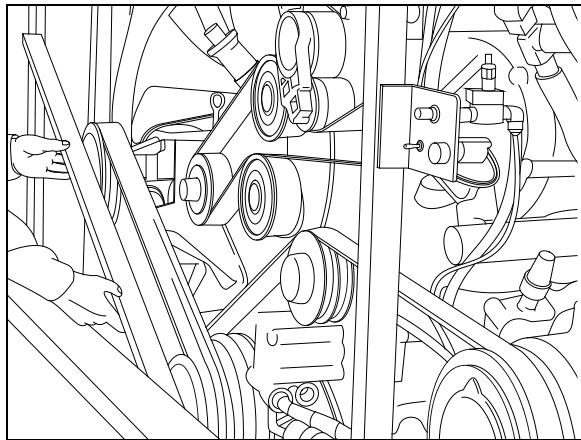

FIGURE 19: PULLEYS ALIGNMENT 05064
3. Using a straight edge, align the 3"V"pulley on gearbox central shaft pulley with engine pulley, while taking pulleys outer edge thickness under consideration i.e. 3"V"pulley's outer edge is thicker than that of engine pulley's (Fig. 19).